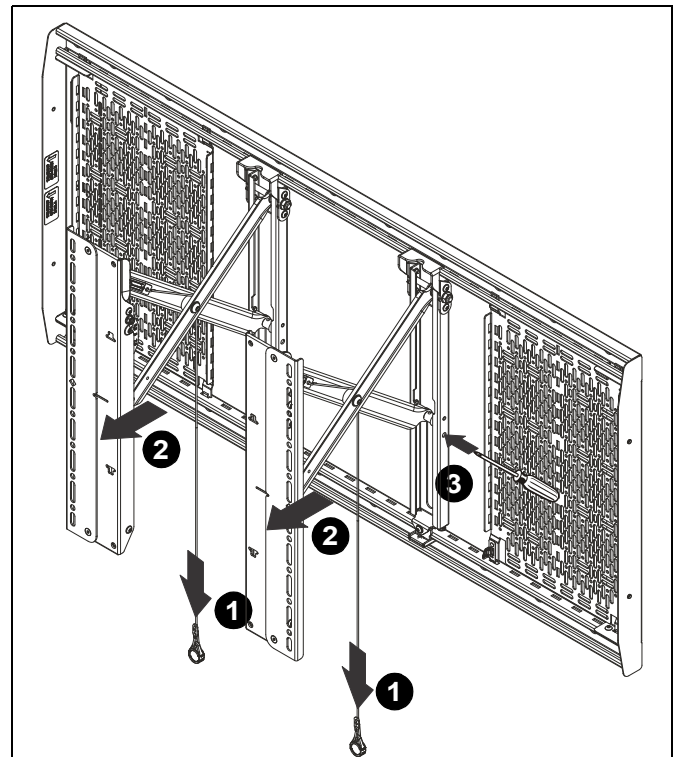

Figure 40
1. **To Extend Mount:** Pull on the home latch release cords for both interface brackets (A and B). (See Figure 40)
3. A Screwdriver or metal rod may be inserted through holes to lock brackets in service position. (See Figure 40)